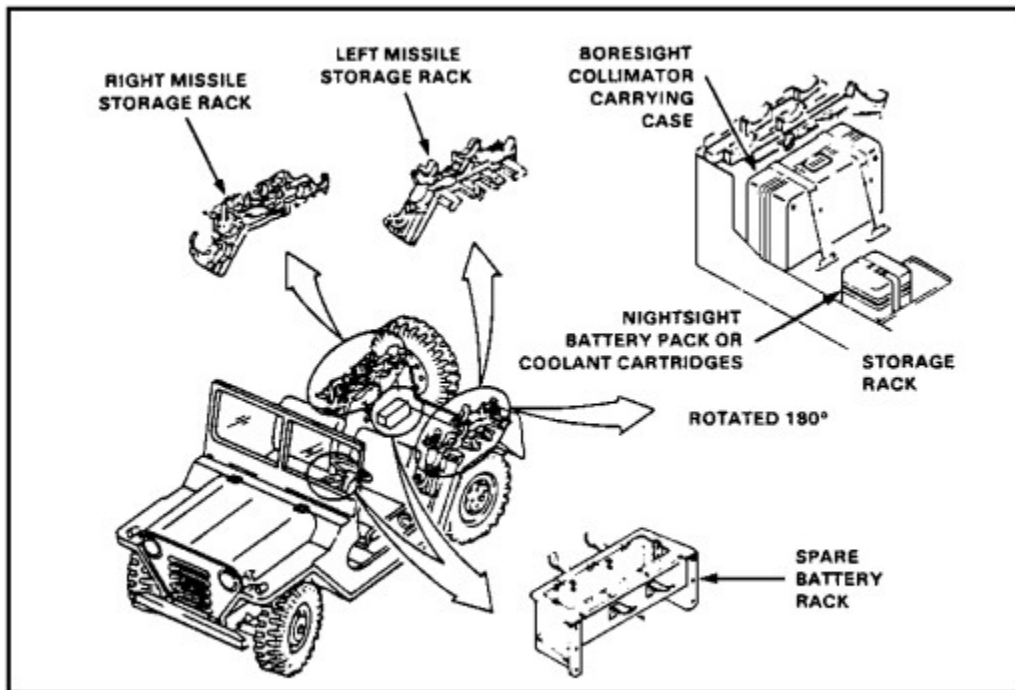

Figure 1-20. M151A2 Missile Carrier.
- Straps for the boresight collimator carrying case and the night sight battery and the coolant cartridge cases, as shown in Figure 1-20.